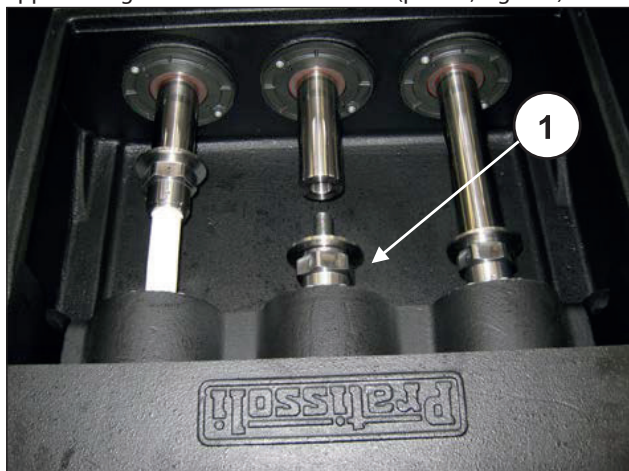

Fig. 165
Loosen the pistons and pull them off from the rod one by one approaching them to the related liners (pos. ①, Fig. 165).